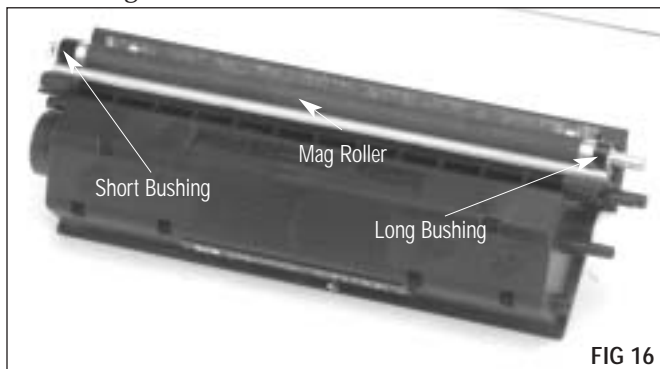

FIG 16
3. Replace the mag roller & bushings from the hopper (FIG 16). The short bushing is placed on the contact side and the long bushing is placed on the gear side.